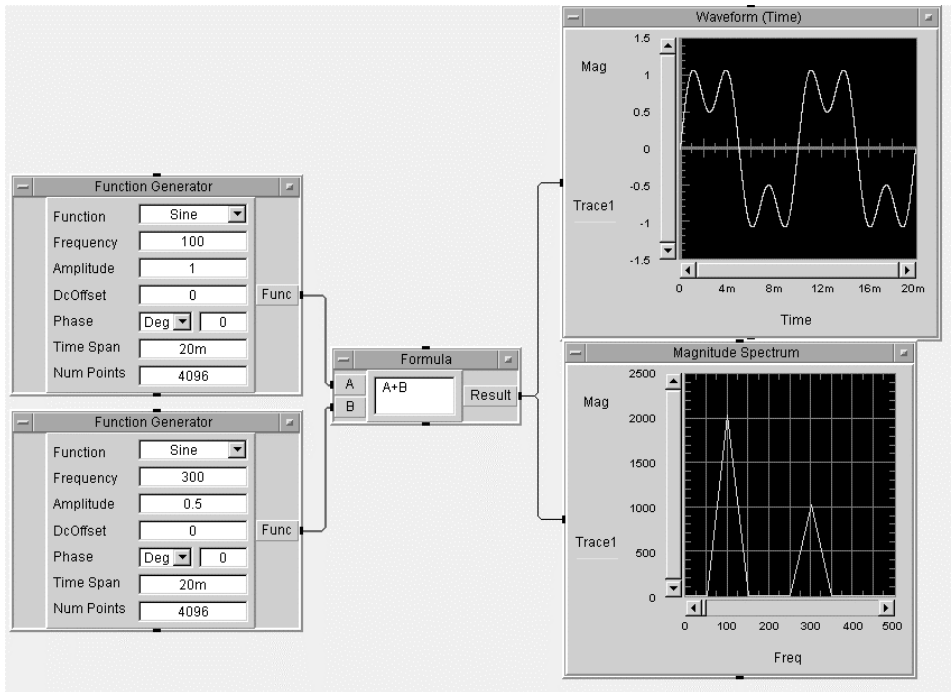

Figure 13.4. One pair of Function Generator settings
- ◇ 33. Run this program several times with different amplitude settings on each Function Generator. See Figure 13.4.